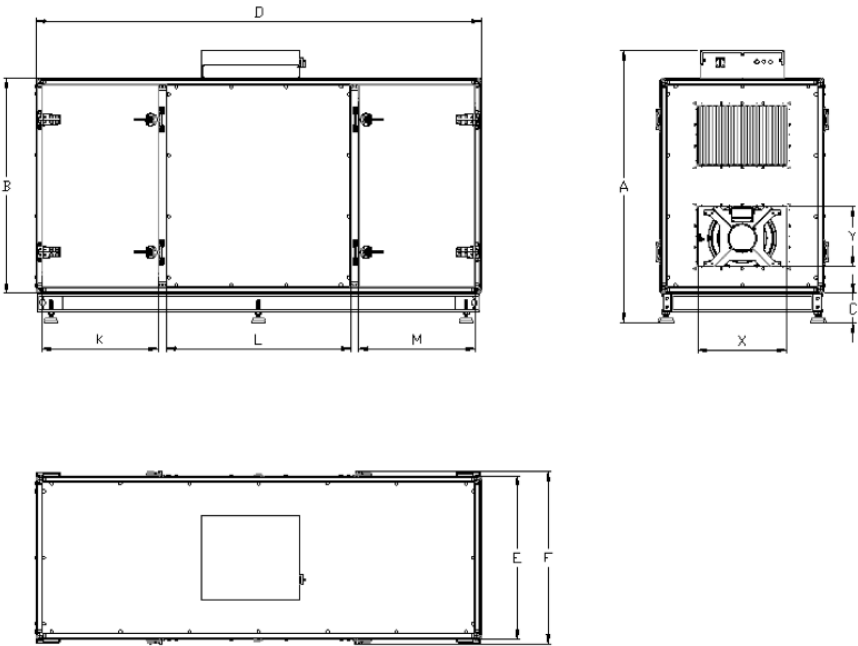

Fig.8
-Non-dividable units (EVO-10C, EVO-15C, EVO-25C, EVO-35C) (Fig. 8)